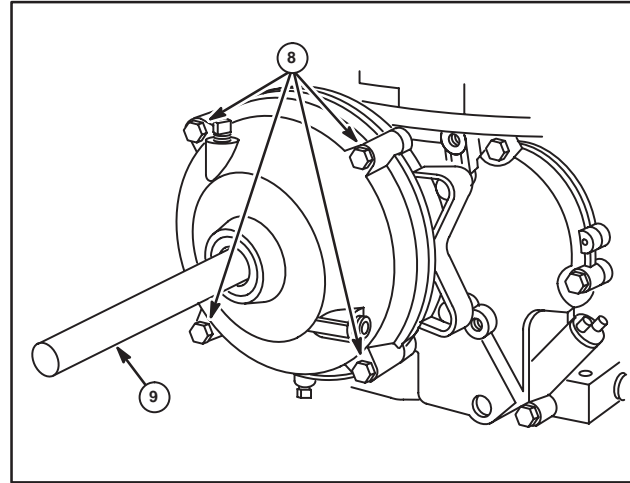

Fig. 38
- Torque cover screws (8) to 190 in. lbs. (21 Nm), Fig. 38.